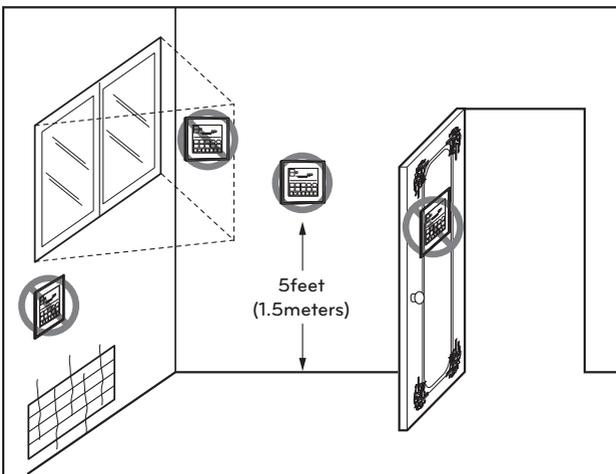

Fig.1 Typical locations for remote controller
<Figure 1>
- Install the electronic wiring cable like <Figure 1>
- This remote controller is equipped with a seven segment LED display. For proper display of the remote controller LED's, the remote controller should be installed properly as shown in Fig.1. (The standard height is 1.2~1.5 m from floor level.)